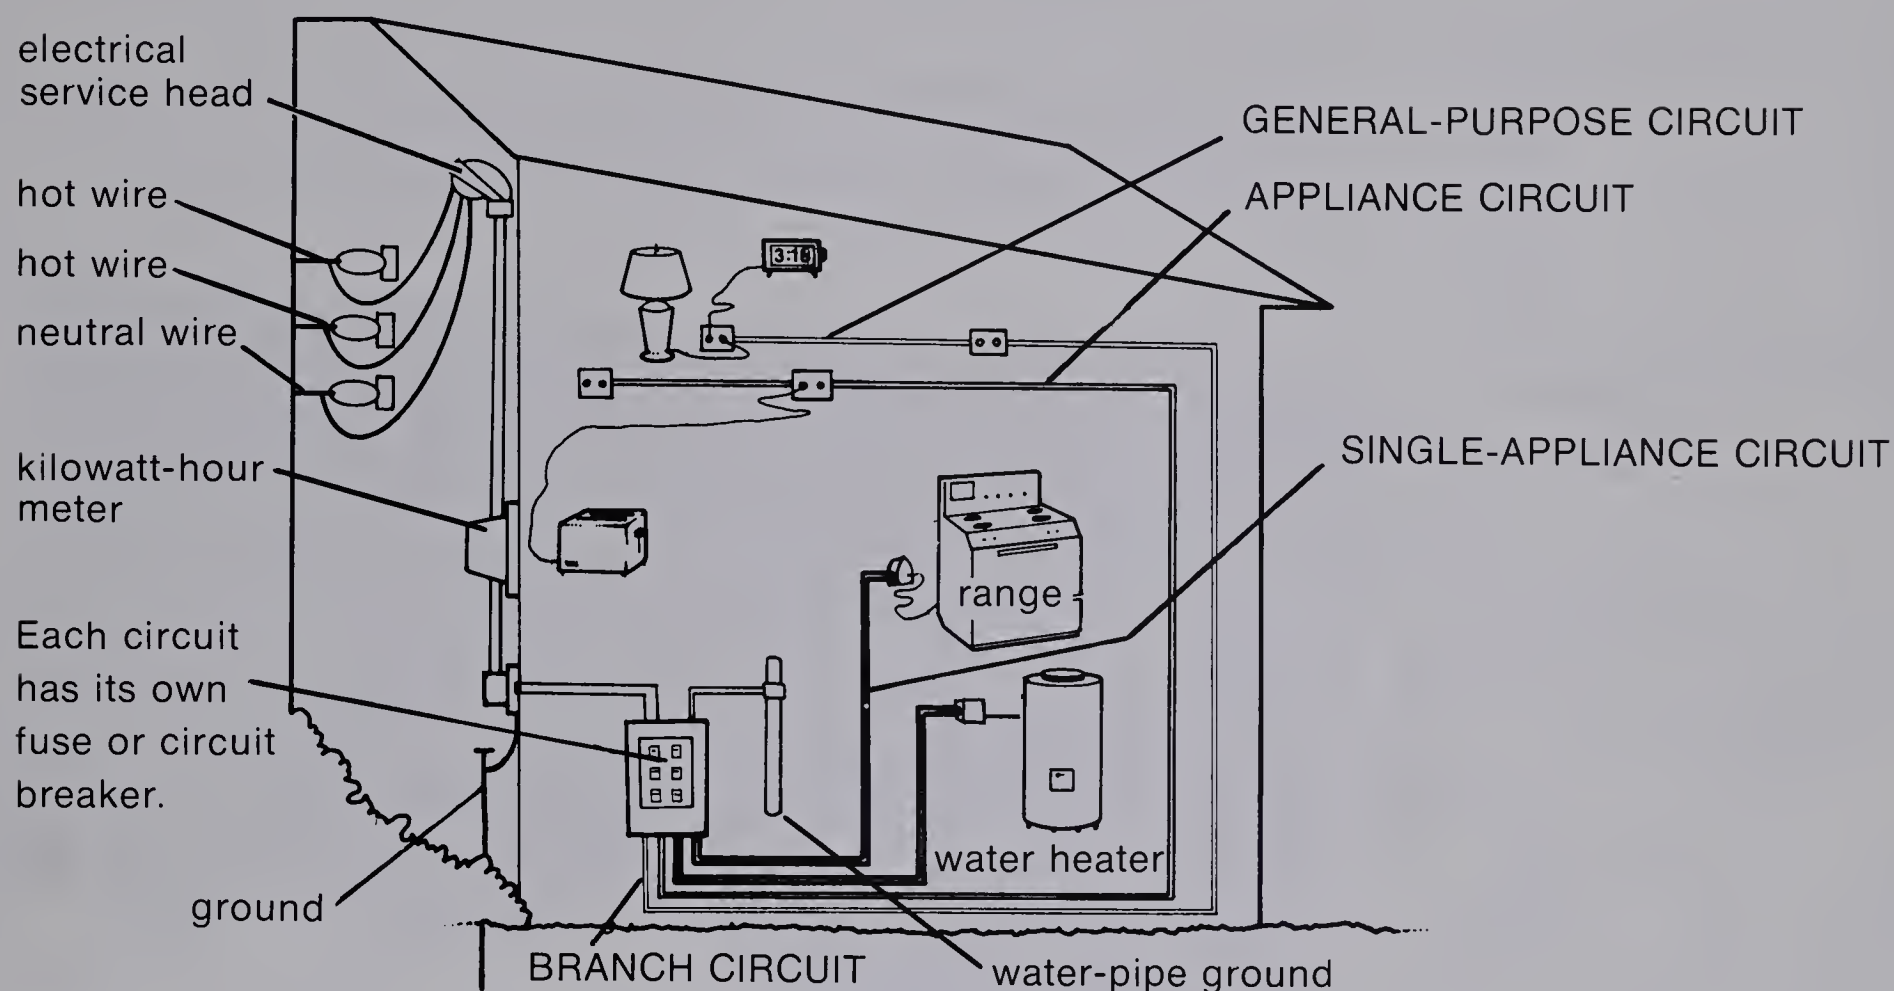

Figure 4-2
Now look at Figure 4-2. This shows the way a house is wired. A water heater and a range take a lot of current. They must be supplied with thick wires. Thinner wires are used for circuits that supply lights or other small appliances. Look at Figure 4-2 carefully, then answer the questions.
- ★ 4-6. According to Figure 4-2, what are the three kinds of branch circuits commonly used in a home?
- ★ 4-7. In Figure 4-2, which room needs a branch circuit with the largest current capacity?